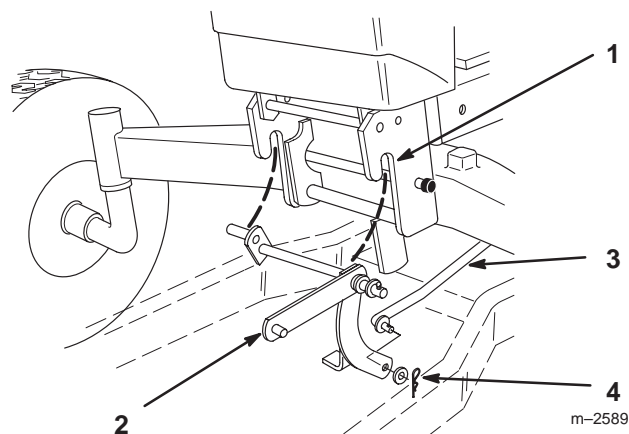

Figure 27
15. Remove hairpin cotter, washer and lift rod from lower arm of lift link (Fig. 27).
16. Open front hitch on tractor and remove lift link (Fig. 27).